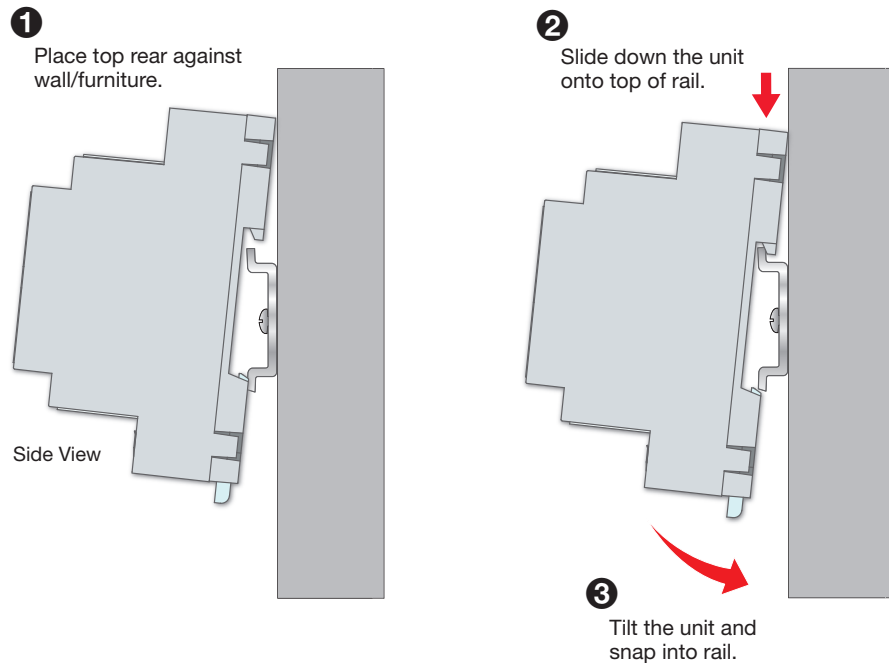

Figure 2. Mounting the IPCP Pro 35x DR to a DIN Rail
1. Place the unit in front of the rail, with the top rear against the wall or furniture (see figure 2, ①).
2. Slide the IPCP Pro down so that the upper part of the mounting slot seats onto the top of the DIN rail (see ②).
3. Tilt the base of the IPCP Pro toward the rail and press until the IPCP Pro snaps into place on the rail (see ③).